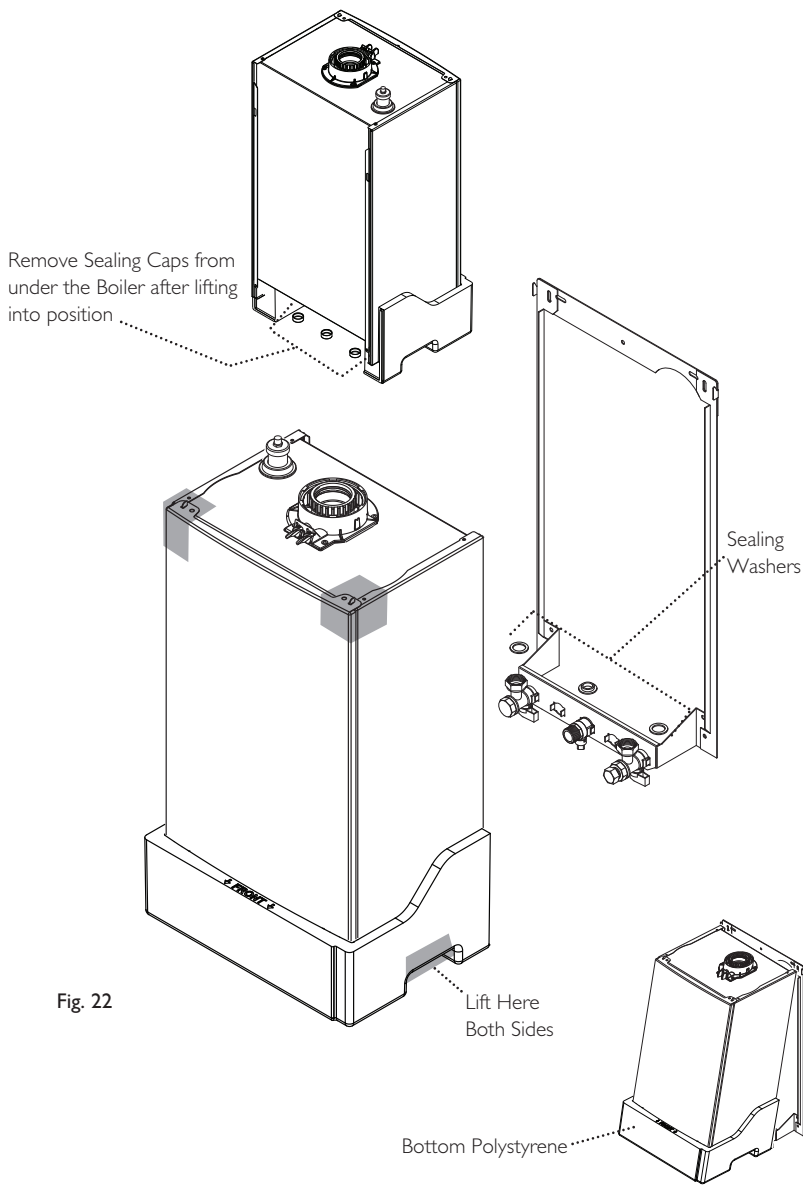

Fig. 22
9.3 Fitting The Boiler (Fig. 22)